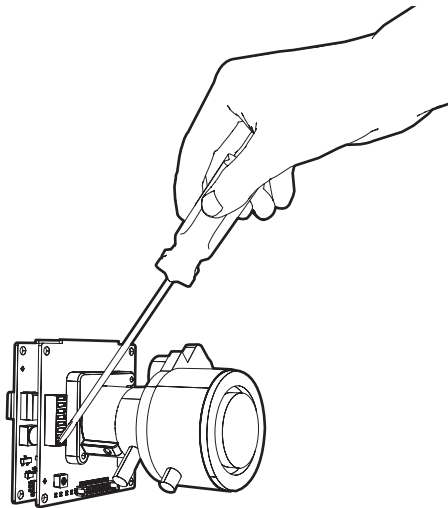

Figure 13. DIP Switches
1. Locate the DIP switch. 2. the switches for your installation using a small screwdriver, refer to Figure 13.